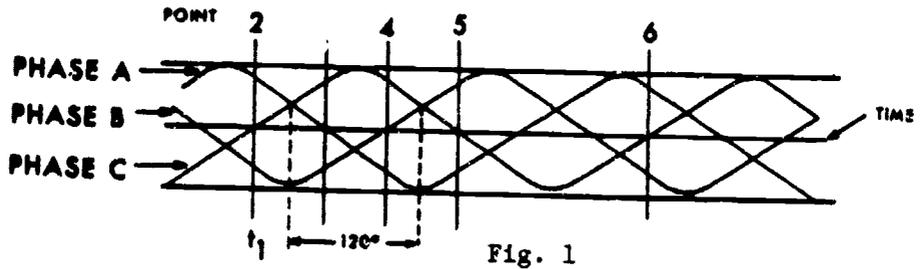
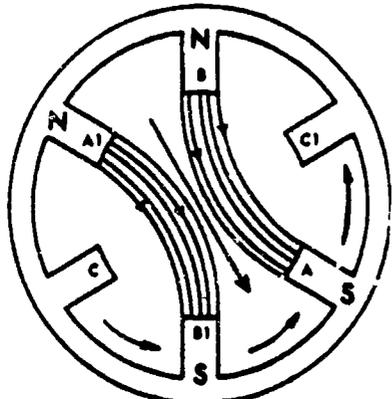
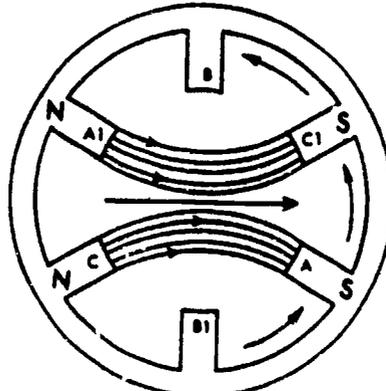
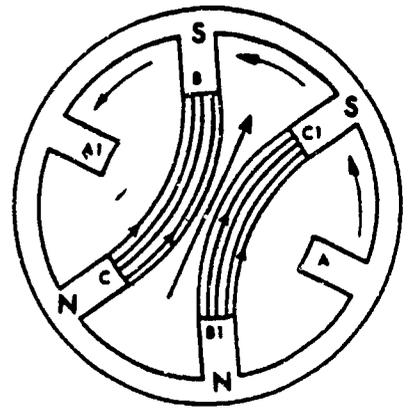

Fig. 1
Fig. 2
Fig. 3
Fig. 4
The illustration shows the rotating magnetic field of a three-phase AC motor. Figure 6 of the illustration shows phase A connected to poles A and A1, phase B to poles B and B1, and phase C to poles C and C1. Using figure 1 as a guide and comparing it to figures 2 through 5 the figures will show how a rotating magnetic field is achieved. Point w of figure 1 shows phases A and B at near maximum value while phase C is at zero. The magnetic lines of force are as shown in figure 2. The rotating magnetic field will be moving counterclockwise. Now move down the time line (figure 1) to point 3. At point 3, phase A is at zero and phases B and C are near maximum. This will cause the magnetic field to rotate counterclockwise to the position shown in figure 3. Compare points 4 and 5 (figure 1) and figures 4 and 5 and notice how the field continues to rotate counterclockwise. A check of points 2 and 5 (figure 1) and figures 2 and 5 will show that both current and the magnetic poles of the motor have changed polarity. Point 6 is the place where the motor will complete 360 degrees rotation. The current values of point 6 are the same as they were at point 2.
1. The current values at points two and six of figure 1 are the same.
In this section you will become familiar with an AC circuit as shown in figure 1, page 24 in Part 3 of this workbook. It is designed to operate and reverse the operation of single phase and three phase motors. You will learn this by tracing the individual circuits which make up the entire circuit. Let us begin by discussing the system's switches.
In this exercise, we will trace power to the manifold valve switch. You will use a red pencil and figure 1 in Part 3 of this workbook.
In this exercise, we will trace the manifold valve switch in the open position. You will use a dark green pencil and figure 1 in Part 3 of this workbook.
Now we will look at the manifold valve switch in the closed position. You will use a dark blue pencil and figure 2 in Part 3 of this workbook.